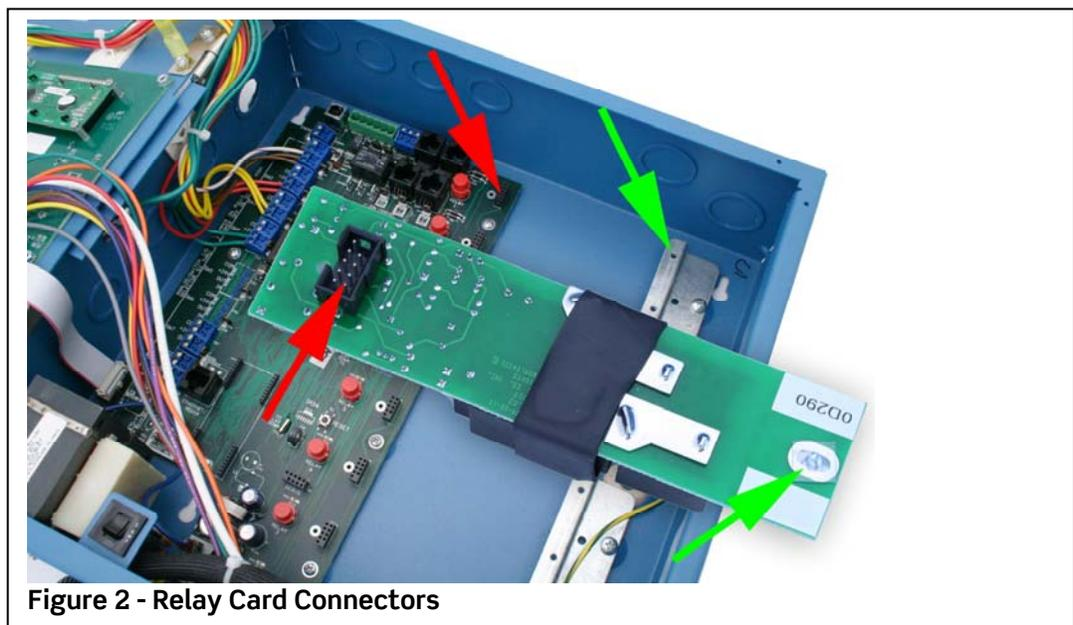

Figure 2 - Relay Card Connectors
Step 3: Install relay card by matching the black connector with the connector mounted on the relay bus card (**Figure 2**).